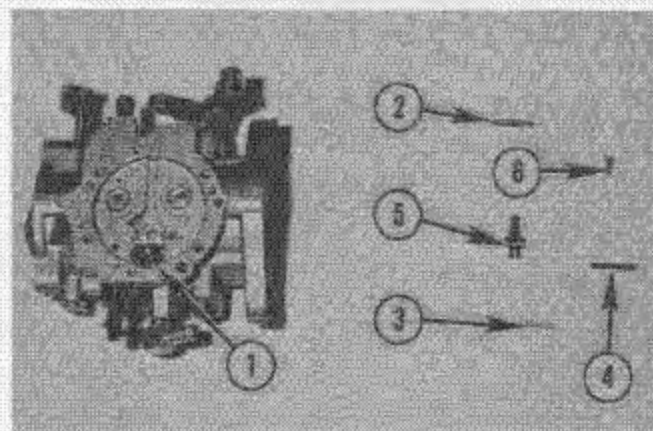

Fig. 30 — Inlet Control Lever Removed — HD Carburetor
c. If carburetor is unusually dirty and Welch plugs are to be removed, careful work is required. Referring to Fig. 30, drill through plugs with a small drill and pry plug from its seat.